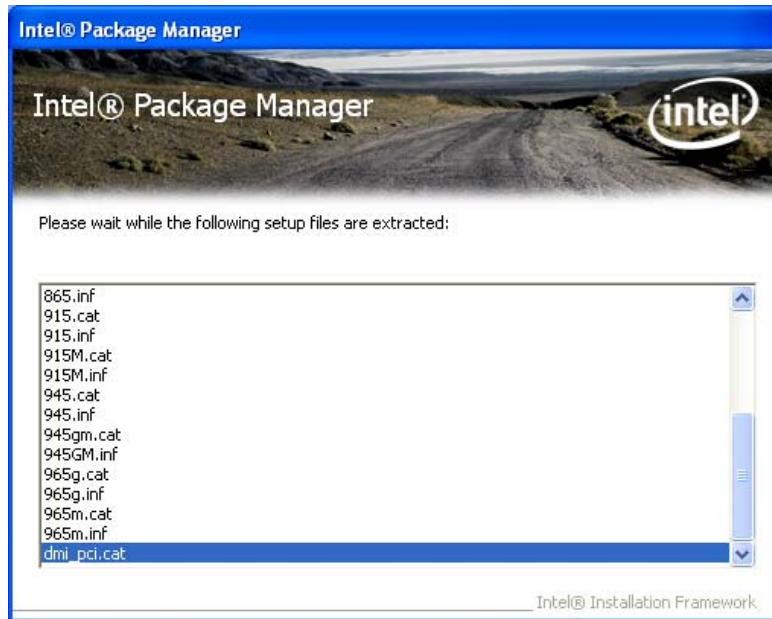

Figure 7-4: Chipset Driver Screen
- Step 3:** The setup files are extracted as shown in Figure 7-4.